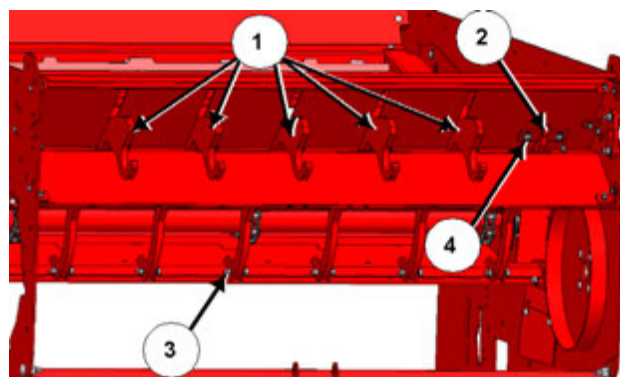

Figure 6: Remove guard rods
5. Remove the guard rods (1, 2); see *Figure 6*.
- Remove the bolts (3) fastening the 6 guard rods (1, 2) to the guard rod mount. Remove the guard rods and set aside.
- To remove the guard rod (2) closest to the rear of the machine, remove the bolts fastening the bracket (4) to the upper bent side sheet.
- Note: The flail drum is not shown in *Figure 6* for clarity.